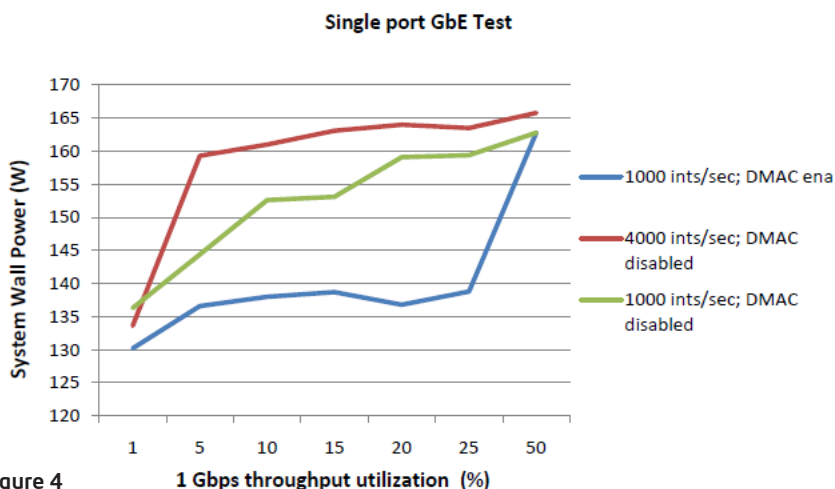

Figure 4
- Adding DMA coalescing creates further power savings. Figure 4 shows how moderating interrupts improves power efficiency and the addition of DMA coalescing further increases power savings.
- Beyond optimal throughput, power savings begins to decrease. Figure 4 shows the power savings of a single port using interrupt moderation and DMA coalescing within the context of network usage.